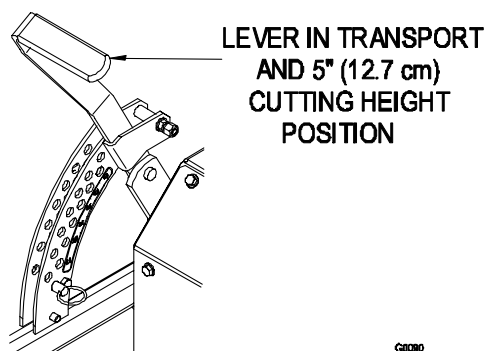

FIGURE 6
- c) Raise the deck lever to the transport position (also the 5” (12.7 cm) cutting height position). See Figure 6.